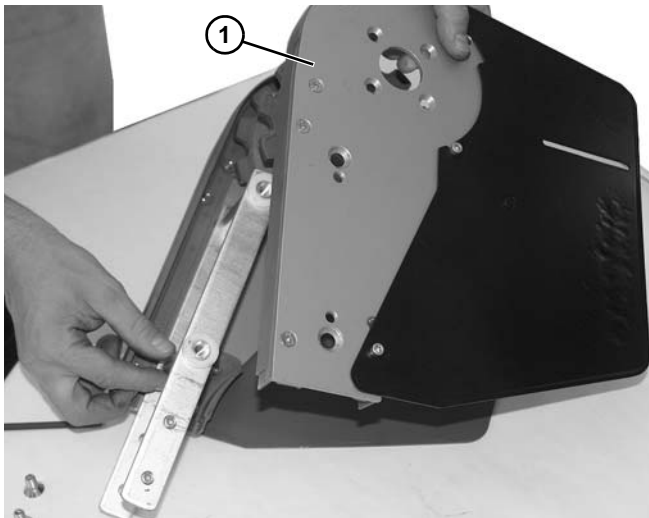

Figure 195
5. Remove the head plate (Figure 195, item 1) from the drive end.